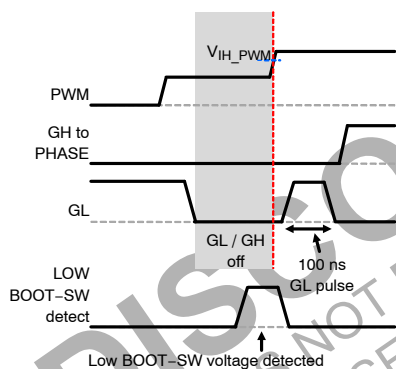

Figure 32. Low BOOT-SW Voltage Detected and PWM from 3-State to HIGH
- If the part exits 3-state with a low BOOT-SW voltage condition and the controller commands PWM = HIGH, the SPS outputs a 100 ns GL pulse and follows the PWM = HIGH command (see Figure 32).